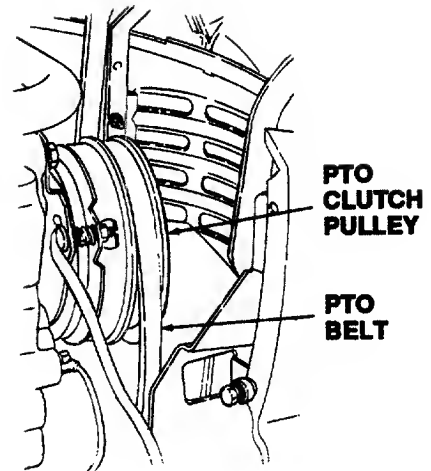

Figure 55
13. Install the forward end of the PTO belt on the engine PTO clutch pulley by passing the belt upward inside the tractor frame. Ensure that the narrow side of the PTO belt engages the groove of the pulley (Refer to Figure 55).